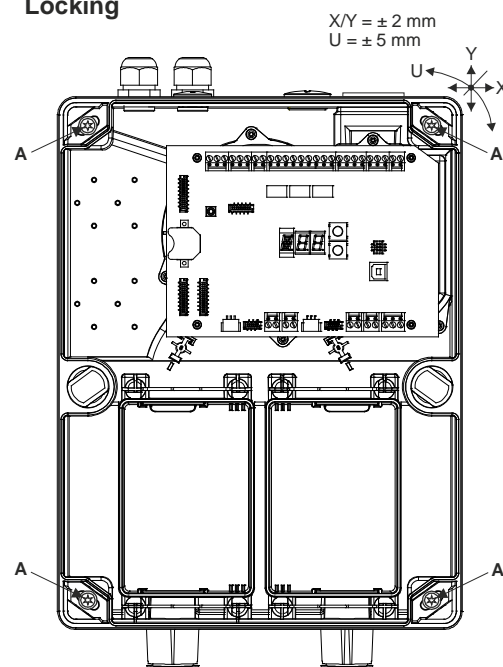

Fig. 17 Opening, closing and fastening the detector housing
- To use the **rotary snap locks**, **press firmly** with the screwdriver toward the map case base and then **turn 90°**. The position of the lock slit shows the current state (see **Fig. 17**):